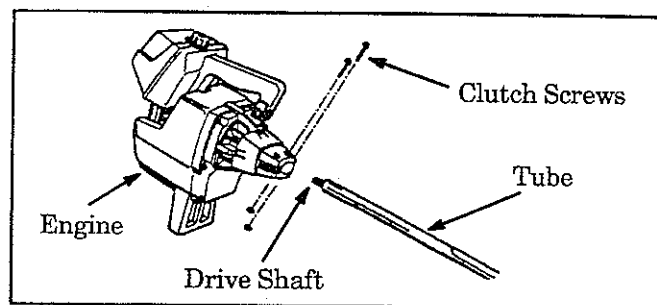

Figure 26
1. Remove the shroud screws. Figure 26.